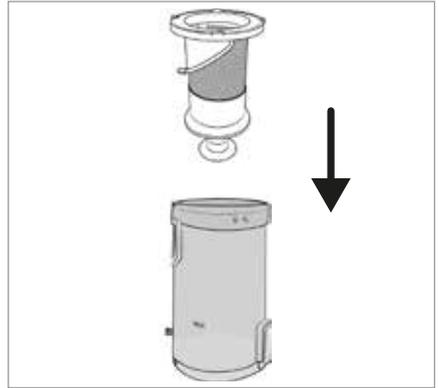

Fig. 23
- 6) Insert the stainless steel filter **6** into the dust container **7** and push it all the way down (see Fig. 23). Pay attention to the different sized locks on the stainless steel filter **6**. The stainless steel filter **6** can only be inserted into the dust container **7** in one position due to these locks.